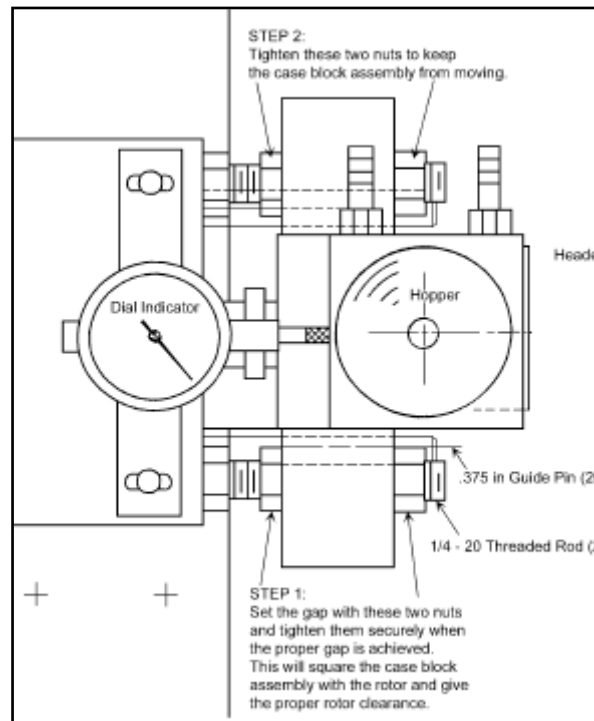

Figure 5
- Case Supporting Block:** Supports the case and permits the adjustment of the header to rotor clearance (gap area) through axial movement. It is supported by two threaded rods and two guide rods (See Figure 5.)
- Gap Adjusting Nuts:** Four nuts located in front of and behind the case-supporting block on each side of the two threaded support rods (See Figure 5.)
**Heat Switches (2):** The two switches, one the left for the rotor and one on the right for the header, provide on/off control to a heater circuit. When the switch is on, power is on to the heater.
A gap size setting of 0.020 inches is recommended as typical. If greater intensive mixing is desired, decrease the gap size. If greater throughput is desired, increase the gap size. The gap size is adjusted by loosening the two sets of adjusting nuts in front and back of the case supporting block(See Figure 5) and sliding it towards the LME until the rotor’s front surface touches the header’s inside surface. Turn the gap size indicator to zero, then move the case supporting block until the gap size indicator gauge displays the desired gap size. Retighten the four adjusting nuts.